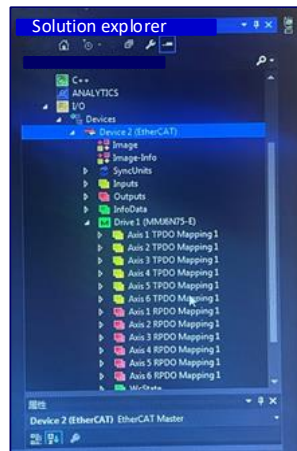

Figure 15: Device List
- c. If TwinCAT asks to scan the boxes, click Yes. After a successful scan, the devices should be listed (see Figure 15 on page 25).